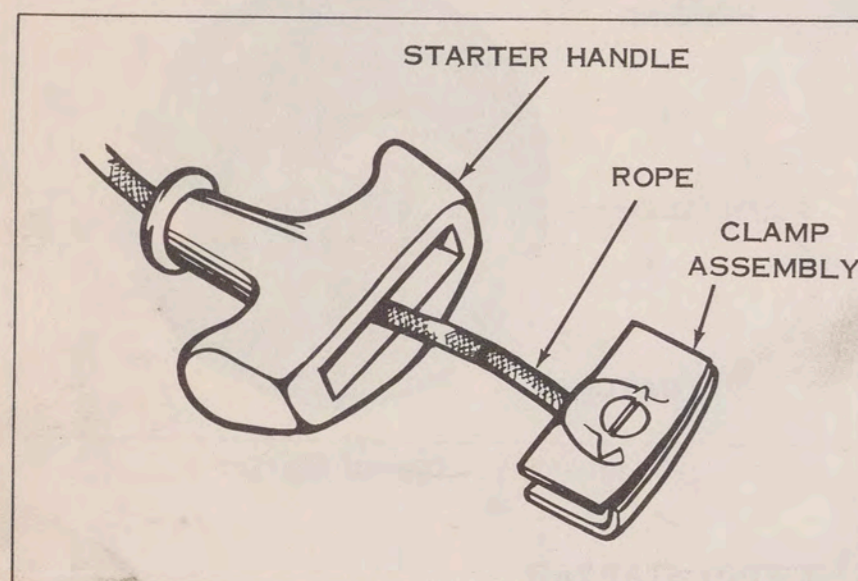

Figure 7-3. Rope Handle and Clamp
b. Pry clamp assembly from handle and disassemble. (See figure 7-3.) This allows handle to be removed from rope.
e. Replace starter handle and clamp assembly (see figure 7-3).
a. Pry clamp assembly from handle and disassemble. (See figure 7-3). Allow rope to wind slowly around pulley until spring tension has been completely released.